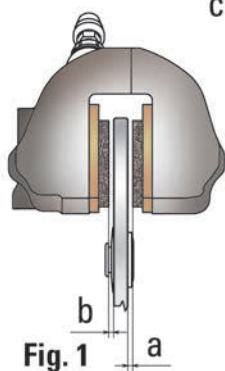

Fig. 1
- The caliper must be mounted in a symmetrical position with respect to the disc center line: Misalignment must be 0,15mm MAX (see fig. 1).